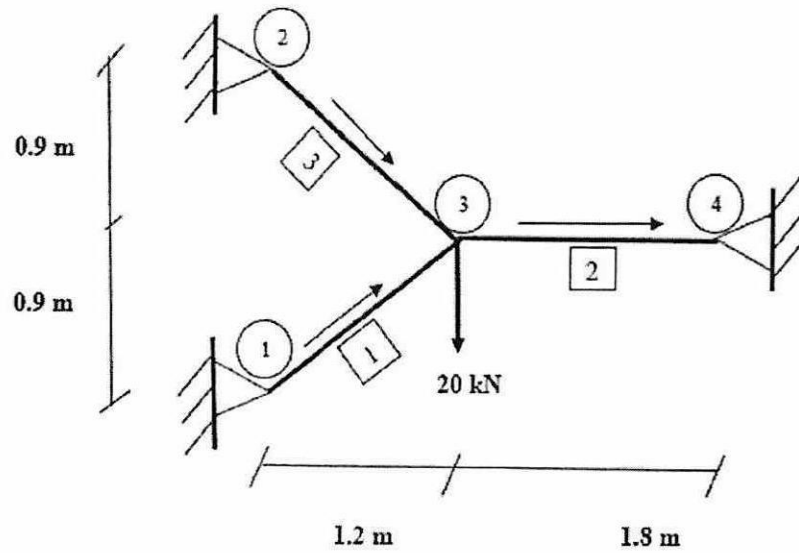

Figure Q2.1
**Q2** **Figure Q2.1** displays a truss structure comprising three members and four nodes, supported by three pinned connections. Every node has two degrees of freedom. Node 3 experiences a vertical load of 20 kN applied to it. Take  $A=300 \text{ mm}^2$  and  $E=200 \text{ GPa}$ . Determine the following using the direct stiffness matrix method: